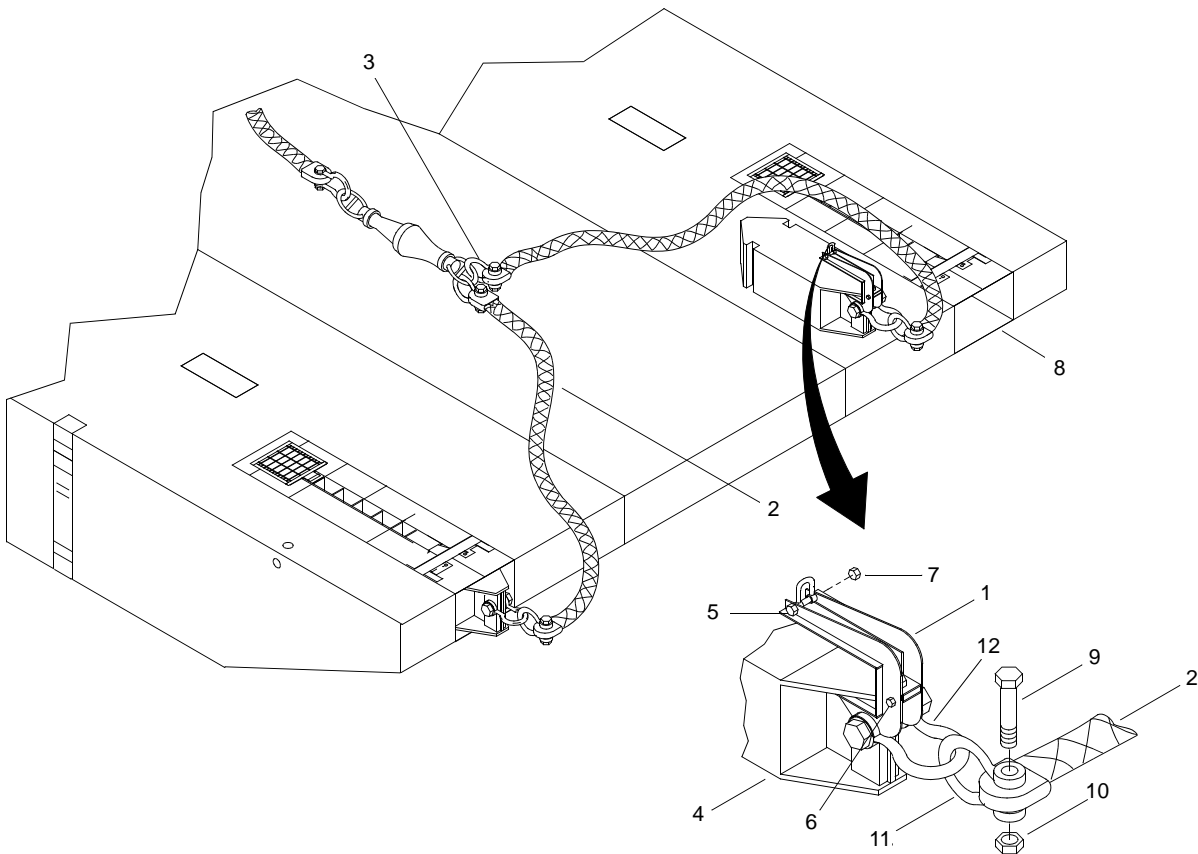

Figure 2. Towing Bridle
9. Remove flexor receiver insert lifting device (figure 2, item 1), forklift adapter and slings from BII container.
10. Using assistants, remove towing bridle (figure 2, item 2) from BII container.
11. Secure a tag line between anchor swivel (figure 2, item 3) and FC deck to prevent slippage of towing bridle (figure 2, item 2) overboard.
12. Position flexor receiver insert lifting device (figure 2, item 1) over end of flexor receiver insert (figure 2, item 4) in BII container.
13. Install bolts (figure 2, items 5 and 6).
14. Tighten bolt (figure 2, item 6).
15. Install nut (figure 2, item 7) on bolt (figure 2, item 5).
16. Tighten nut (figure 2, item 7).
17. Using forklift, forklift adaptor, sling and flexor receiver insert lifting device (figure 2, item 1), remove flexor receiver insert (figure 2, item 4) from BII container and position near end rake flexor pocket (figure 2, item 8).
18. Remove bolt (figure 2, item 9) and nut (figure 2, item 10) from shackle (figure 2, item 11) on leg of towing bridle (figure 2, item 2).
19. Attach shackle (figure 2, item 11), nut (figure 2, item 10) and bolt (figure 2, item 9) to flexor receiver insert shackles (figure 2, item 12). Tighten nut (figure 2, item 10).
20. Using a forklift, forklift adaptor, sling and flexor receiver lifting device (figure 2, item 1), position flexor receiver insert (figure 2, item 4) in flexor well pocket (figure 2, item 8).
25. Remove flexor receiver insert lifting device (figure 2, item 1) from flexor receiver insert (figure 2, item 4).
26. Repeat step 12 through step 25 for second flexor receiver insert (figure 2, item 4).
27. Stow flexor lifting device (figure 2, item 1), forklift adapter and slings in BII container.
3. Secure a tag line between anchor swivel (figure 2, item 3) and FC deck to prevent slippage of towing bridle (figure 2, item 2) overboard.
4. Remove flexor lifting device (figure 2, item 1), forklift adapter and slings from BII container.
5. Position flexor receiver insert lifting device (figure 2, item 1) over end of flexor receiver insert (figure 2, item 4) in end rake flexor pocket (figure 2, item 8).
6. Install bolts (figure 2, items 5 and 6).
7. Tighten bolt (figure 2, item 6).
8. Install nut (figure 2, item 7) on bolt (figure 2, item 5).
9. Tighten nut (figure 2, item 7).
12. Using forklift, forklift adaptor, sling and flexor receiver insert lifting device (figure 2, item 1), remove flexor receiver insert (figure 2, item 4) from end rake flexor pocket (figure 2, item 8).
13. Remove shackles (figure 2, item 11), nuts (figure 2, item 10) and bolts (figure 2, item 9) connecting leg of towing bridle (figure 2, item 2) to flexor receiver insert shackles (figure 2, item 12).
14. Install shackles (figure 2, item 11), bolts (figure 2, item 9) and nuts (figure 2, item 10) on leg of towing bridle (figure 2, item 2).
15. Using forklift, forklift adaptor, sling and flexor receiver insert lifting device (figure 2, item 1), place flexor receiver insert (figure 2, item 4) in BII container.
16. Remove flexor receiver insert lifting device (figure 2, item 1) from flexor receiver insert (figure 2, item 4).
17. Repeat step 5 through step 16 for second flexor receiver insert (figure 2, item 4).